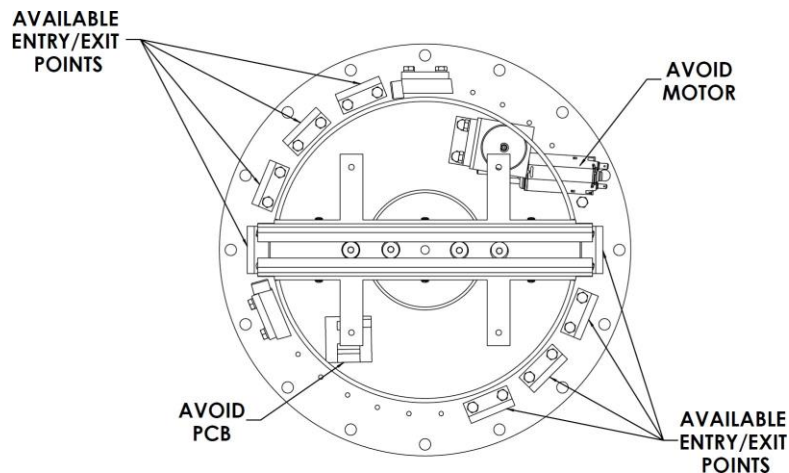

Figure 120: **Motor Positioned to Not Interfere with Entry or Exit Points**
- Position the turntable so its motor and PCB do not interfere with any of the entry or exit points (Figure 120).